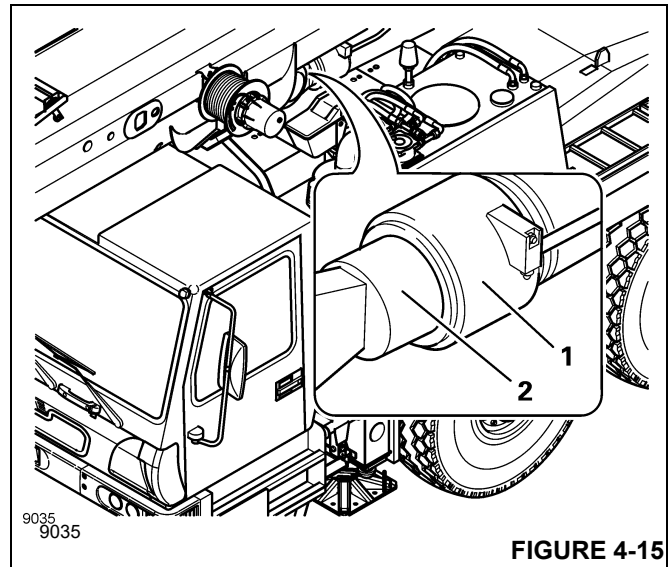

FIGURE 4-15
- Clean the open end (2, Figure 4-15) of the piston rod of old grease, dirt particles and rust.
- Lubricate the open end (2) of the piston rod on the lifting cylinder head (1) so that it is evenly covered with grease.